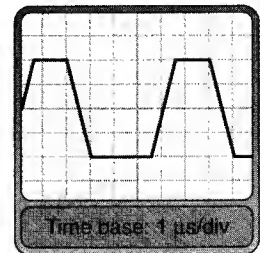

FIGURE 19.52
8. Determine the values of PW and T_C for the waveform in Figure 19.52.
10. Calculate the duty cycle of the waveform in Figure 19.52.